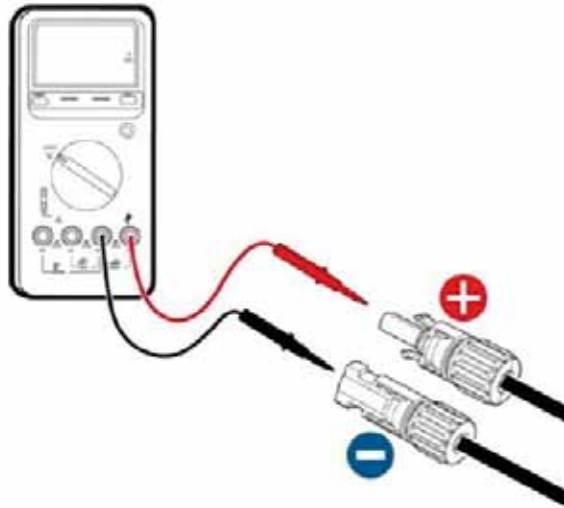

Figure4.12 DC input voltage measuring
- (3) After the DC connector is connected, use a multimeter to measure the voltage of the DC input string, verify the polarity of the DC input cable, and ensure that the voltage of each string is within the allowable range of the inverter, as shown in Figure 4.12.